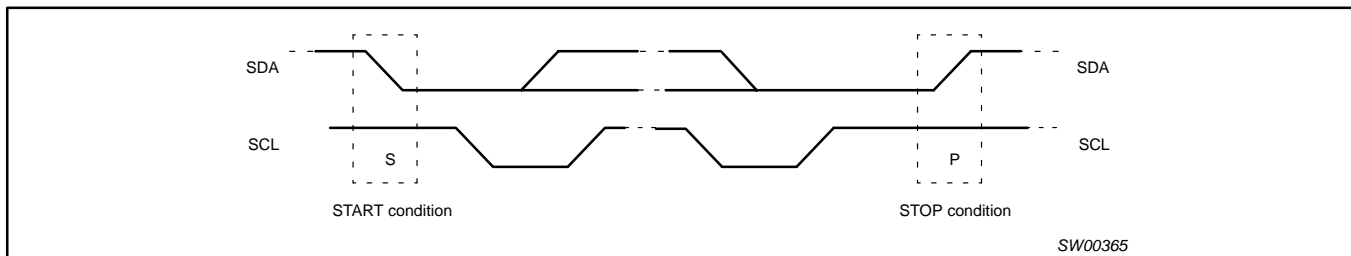

Figure 7. Definition of start and stop conditions
Both data and clock lines remain HIGH when the bus is not busy. A HIGH-to-LOW transition of the data line, while the clock is HIGH is defined as the start condition (S). A LOW-to-HIGH transition of the data line while the clock is HIGH is defined as the stop condition (P) (see Figure 7).